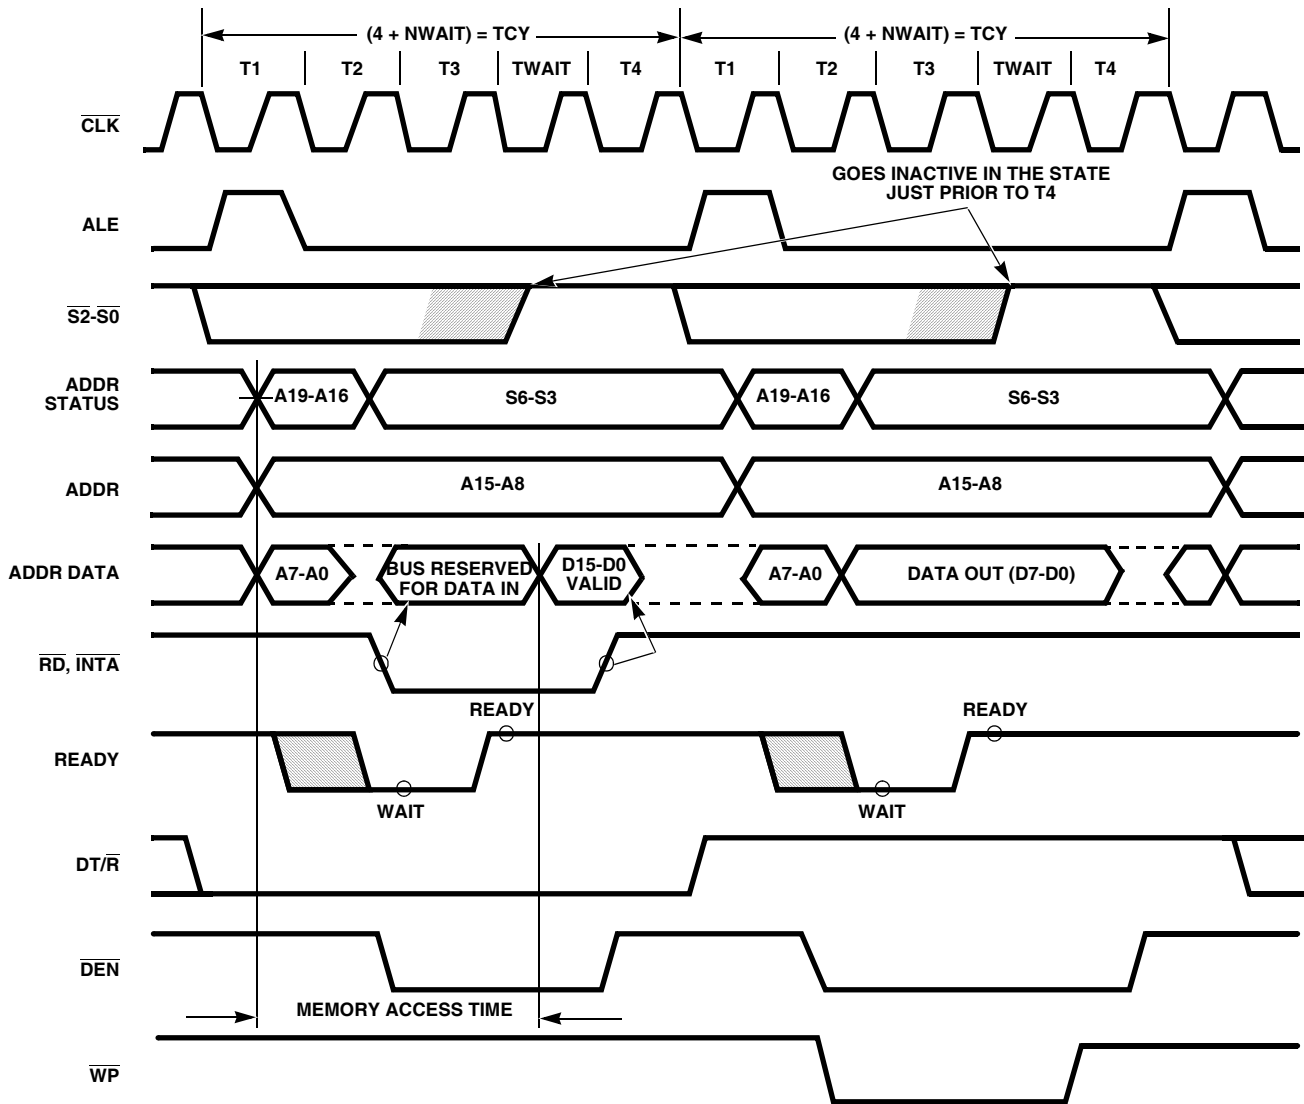

FIGURE 5. BASIC SYSTEM TIMING
Each processor bus cycle consists of at least four CLK cycles. These are referred to as T1, T2, T3 and T4. (See Figure 5). The address is emitted from the processor during T1 and data transfer occurs on the bus during T3 and T4. T2 is used primarily for changing the direction of the bus during read operations. In the event that a "Not Ready" indication is given by the addressed device, "wait" states (TW) are inserted between T3 and T4. Each inserted "wait" state is of the same duration as a CLK cycle. Periods can occur between 80C88 driven bus cycles. These are referred to as "idle" states (TI), or inactive CLK cycles. The processor uses these cycles for internal housekeeping.
The read cycle begins in T1 with the assertion of the address latch enable (ALE) signal (see Figure 5). The trailing (low going) edge of this signal is used to latch the address information, which is valid on the address data bus (AD0-AD7) at this time, into the 82C82/82C83 latch. Address lines A8 through A15 do not need to be latched because they remain valid throughout the bus cycle. From T1 to T4 the $\overline{\text{IO}/\overline{\text{M}}}$ signal indicates a memory or I/O operation. At T2 the address is removed from the address data bus and the bus is held at the last valid logic state by internal bus-hold devices. The read control signal is also asserted at T2. The read ($\overline{\text{RD}}$) signal causes the addressed device to enable its data bus drivers to the local bus. Some time later, valid data